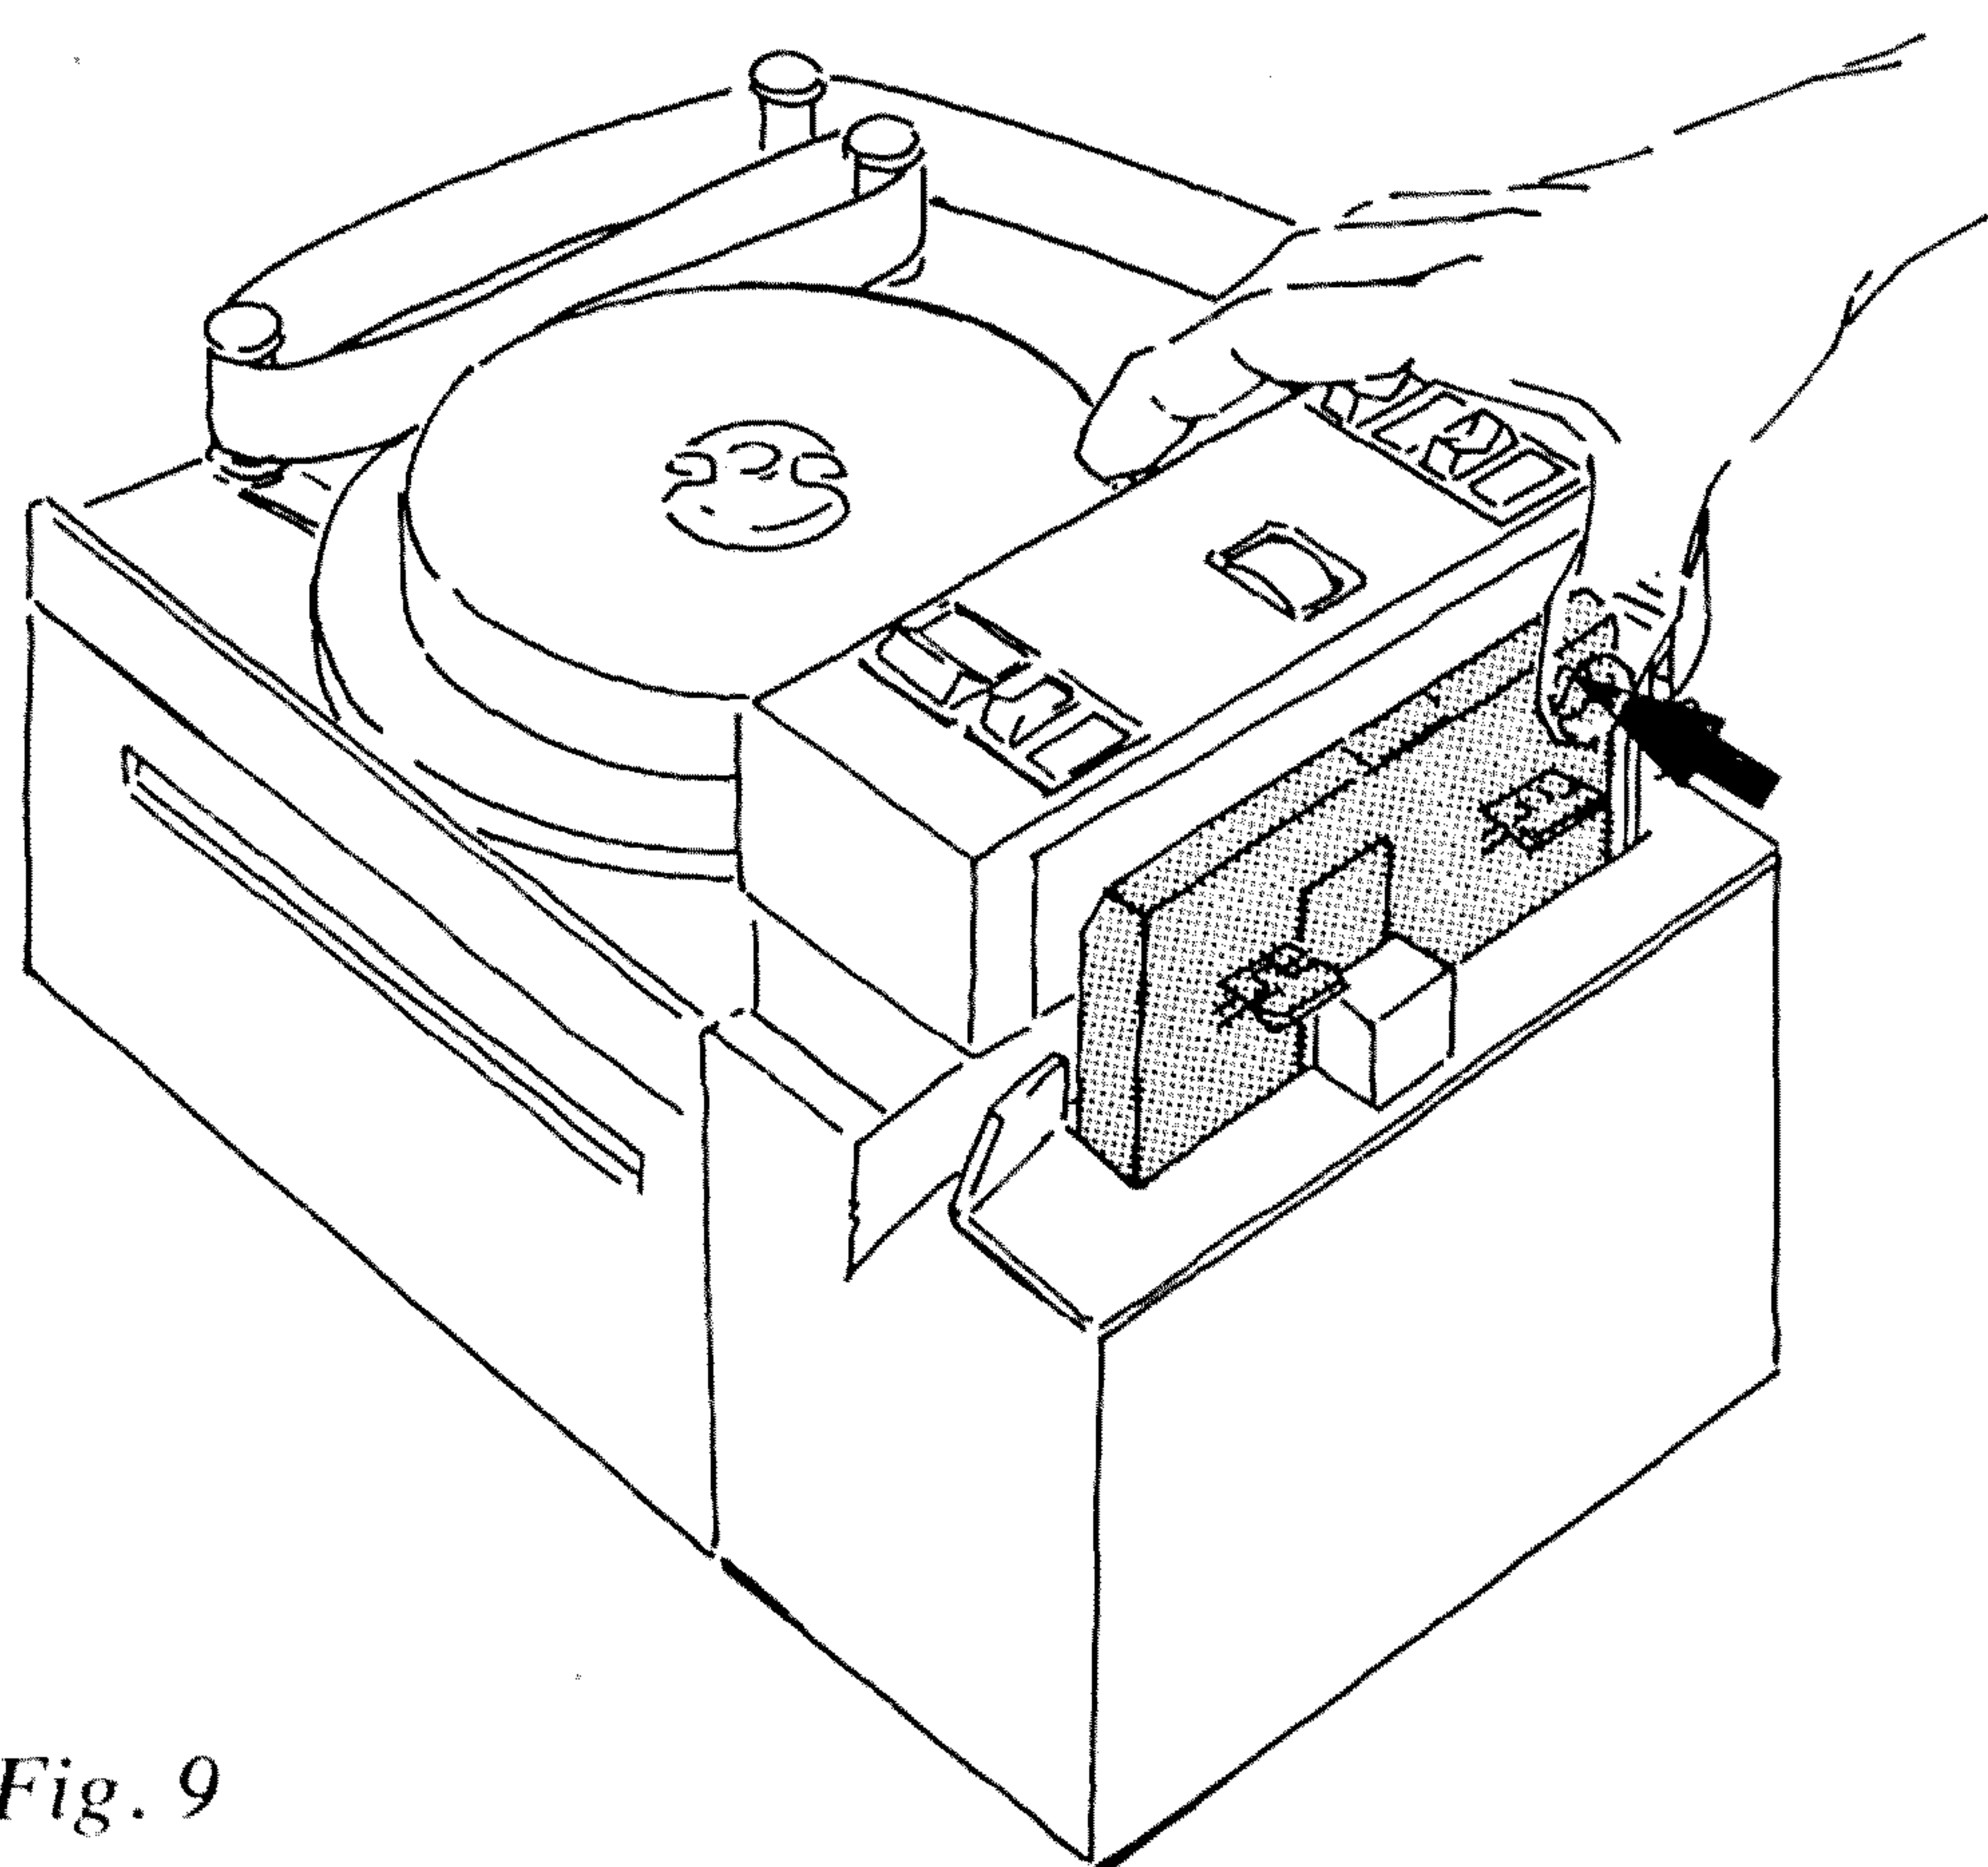

Fig. 9
- Close the cover by pressing on the white “press-to-lock” spot as shown in Fig. 9. The STANDBY lamp will be extinguished.
- Insert the fan-folded tape in the right-hand cassette compartment as shown in Fig. 9. See section entitled "Inserting tape and preparing for reading" for information about the reference edge of the tape.